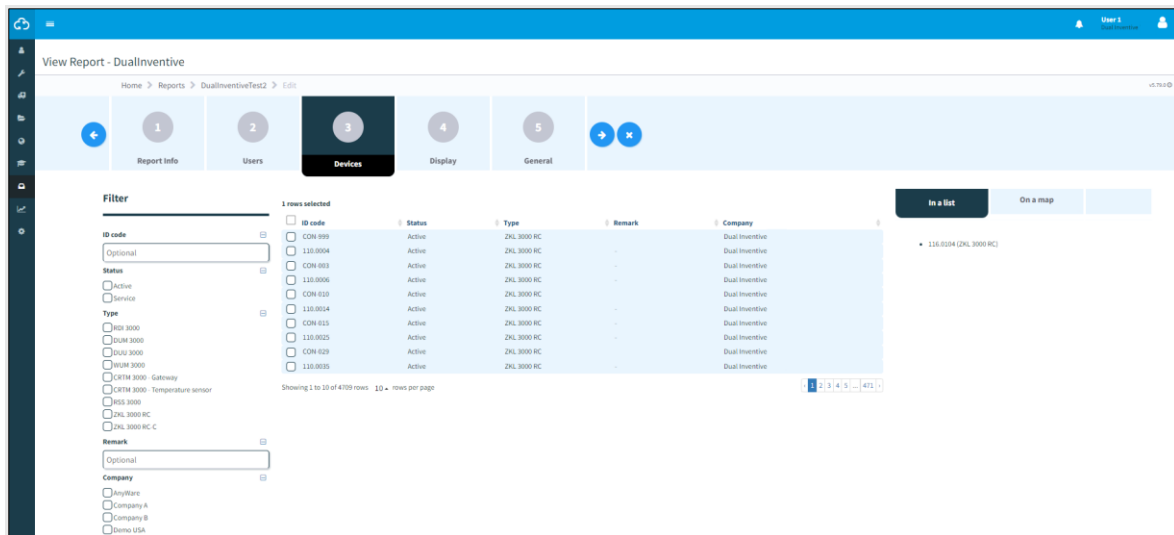

Figure 78 View report - Devices
- Step 1 - Devices (Figure 78);